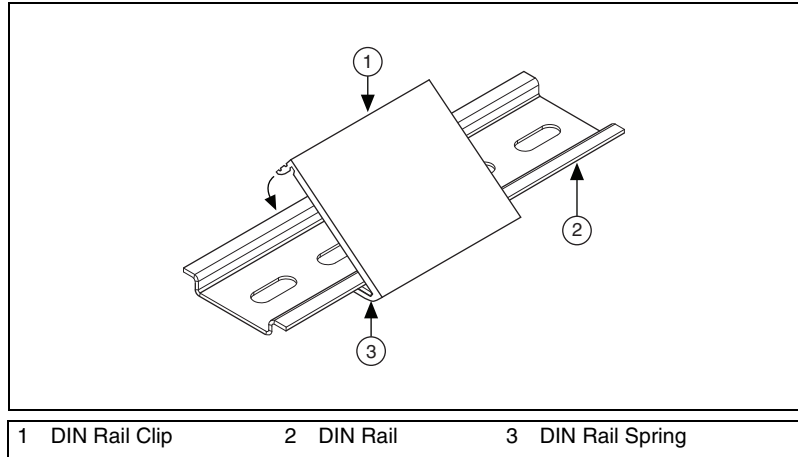

Figure 8. Attaching the DIN Rail Clip to the DIN Rail
2. Insert one edge of the DIN rail into the deeper opening of the DIN rail clip, as shown in Figure 8.